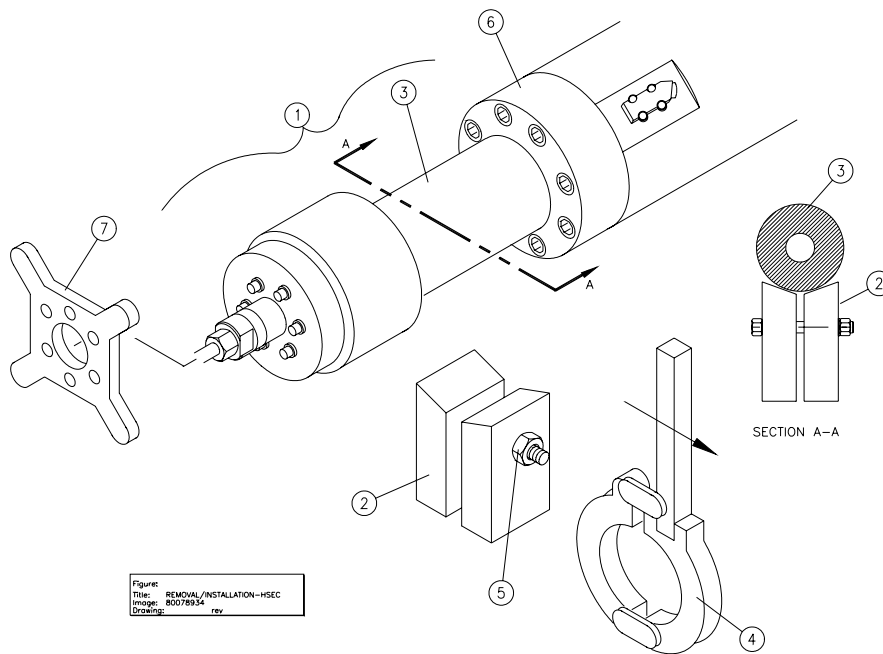

Figure 7-3
Due to the weight (approx. 55 lbs) of the HP cylinder jug, adequate support should be provided to prevent damage to the plunger or seals during disassembly/ re-assembly. See Figure 7-3 for suggested special tools to support the HP cylinder jug for this procedure.
3. With support cradle tool (2) Figure 7-3 located under HP cylinder jug (1), unthread and remove jug from plunger and hydraulic cylinder head (6).